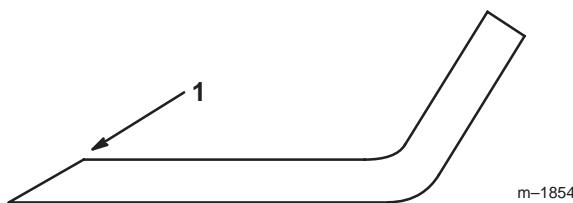

Figure 60
1. Use a file to sharpen the cutting edge at both ends of the blade (Fig. 60). Maintain the original angle. The blade retains its balance if the same amount of material is removed from both cutting edges.